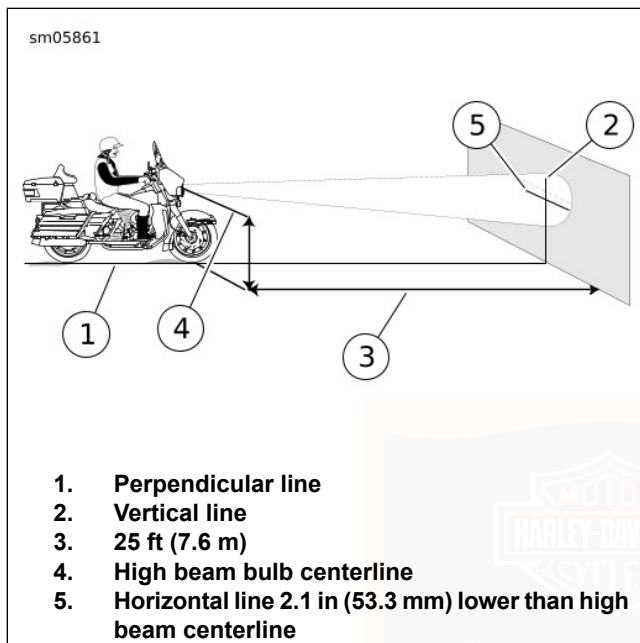

Figure 93. Headlamp Alignment: Quartz Halogen Type
4. See Figure 93. Park the motorcycle on a line (1) perpendicular to the wall.
6. Draw a vertical centerline (2) on the wall aligned with line (1).
7. With the motorcycle loaded, point the front wheel straight forward at wall. Measure the distance (4) from the floor to the bulb centerline:
8. Draw a horizontal line (5) through the vertical line:
- a. **Quartz halogen:** See Figure 93. 53.3 mm (2.1 in) lower than the measured distance.
- c. **LED, frame-mounted fairing:** See Figure 93. 53.3 mm (2.1 in) lower than the measured distance.
- a. **Quartz halogen:** See Figure 93. Hot spot centered on mark with headlamp set to **high beam**.